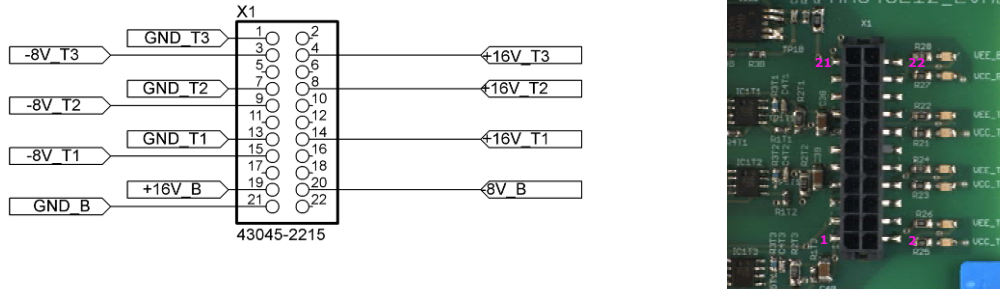

Figure 5 Power supply connections between MA040E12 and MIPAQ™ Serve
- 1) The connector X1 as shown in Figure 5 is the power supply output to the MIPAQ™ serve. Detailed information about the pins are given in Table 3.